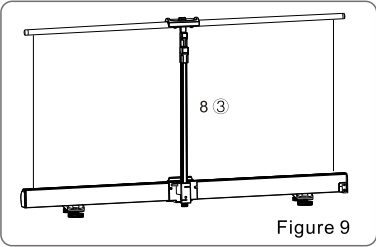

Figure 9
1.Push the uphold locker using one hand simultaneously pull down the uphold bar(8①) with another hand . Repeat the same action to low down the uphold bar (8②). (Figure 9)